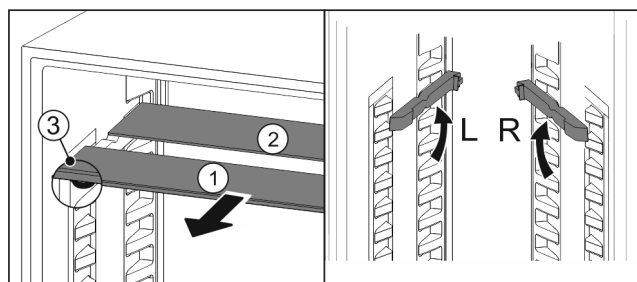

Fig. 134
- ▶ Pull the glass panels out Fig. 134 (1) from the front, one at a time.
- ▶ The glass panel Fig. 134 (1) and trim strip are at the front.
- ▶ The stops Fig. 134 (3) point down.